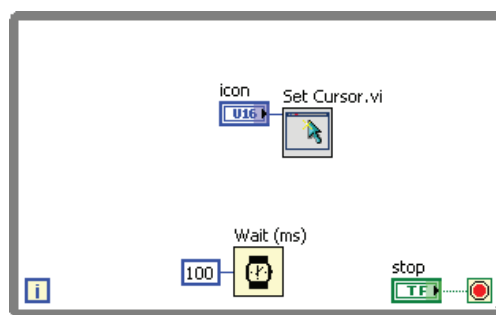

Figure 3-2. VI to Change the Cursor
1. Create a VI that contains a While Loop and the Set Cursor VI to change the appearance of the cursor as shown in Figure 3-2.